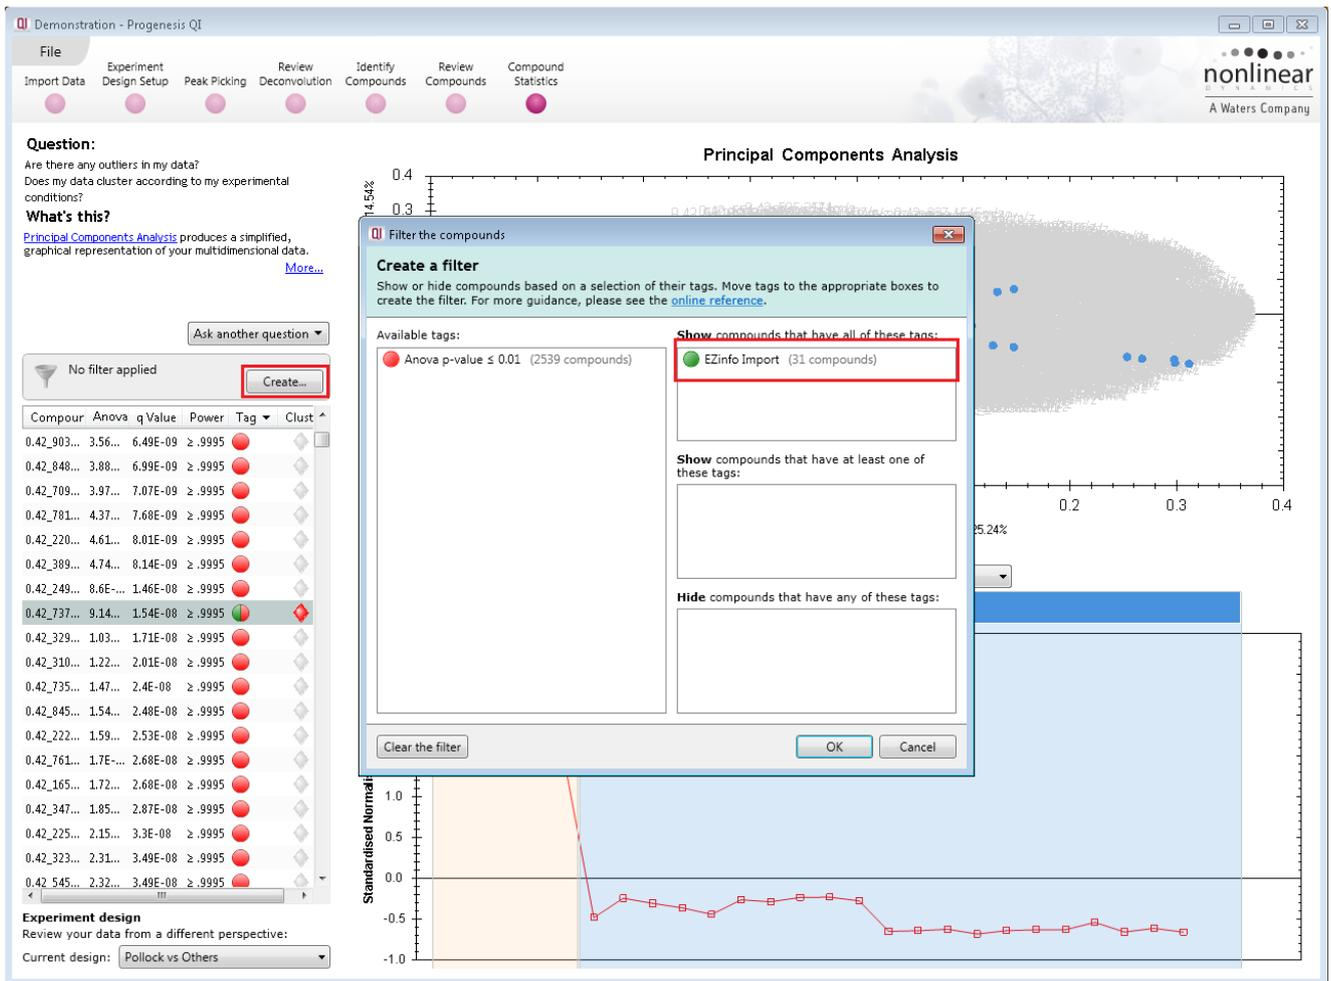

Figure 27: Use the filtering function to show only the imported compounds.
18. You can apply a tag filter to only show these potential biomarkers (Figure 27). These will form a good sub-selection for attempted compound identification in the next section.